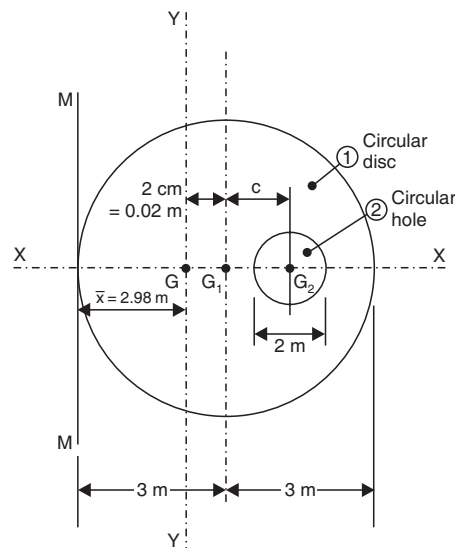

Fig. 4.29
**Sol.** Refer to Fig. 4.29. Since, the remaining body is symmetrical about  $XX$ -axis, therefore  $\bar{y} = 0$ .